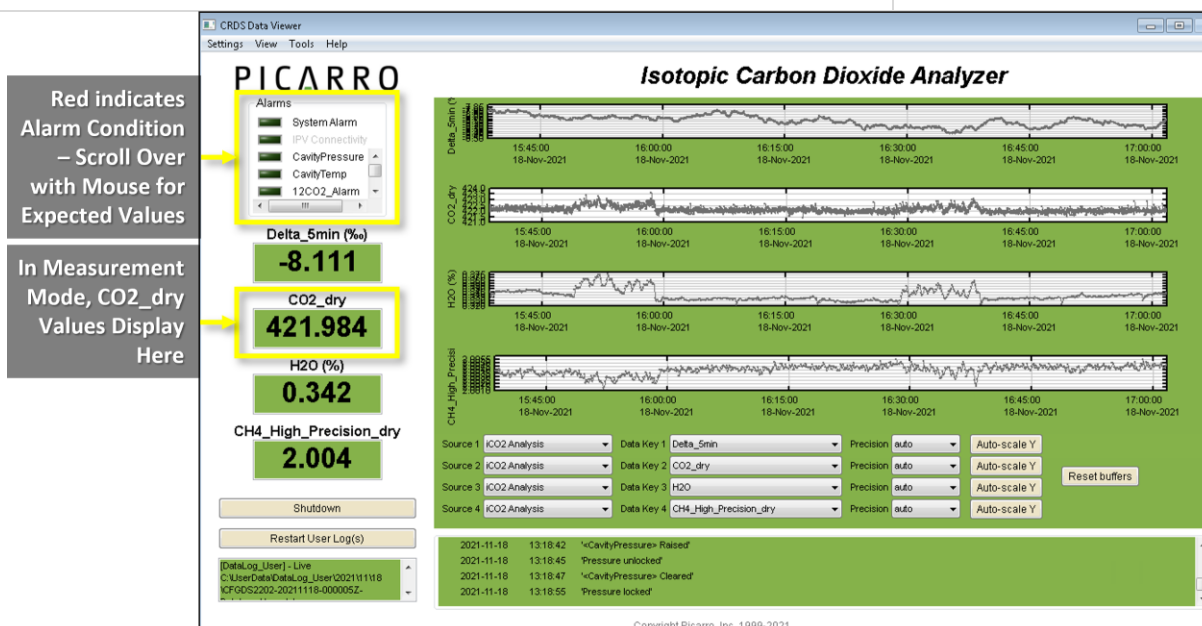

Figure 209. PICARRO Alarms and CO₂ dry Values.
STEP 15 | Log back into the Picarro via Remote Desktop (see Section 9 for instructions on remotely logging into a PICARRO Analyzer) and monitor startup. The instrument will display no alarms or CO₂ dry concentration values when entering measurement mode (**Figure 209**).